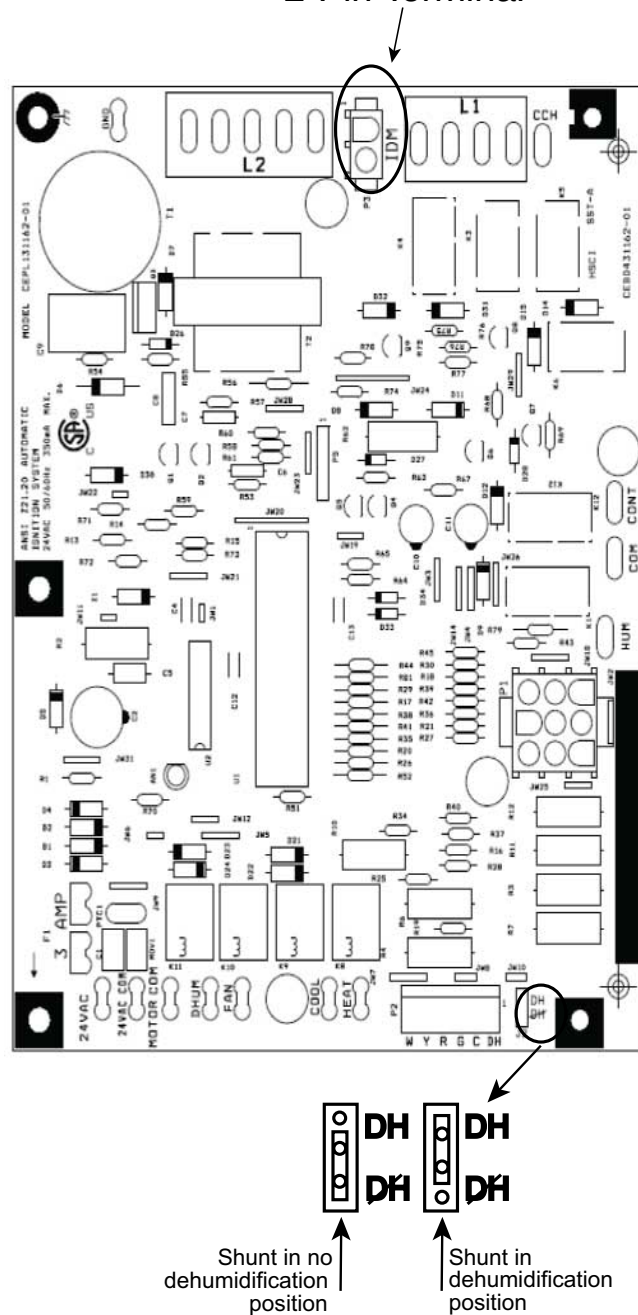

Fig. 19 – Ultra Low NOx IGC Board
This unit is factory-set for use with a single cooling fan speed. For single phase models, the cooling speed is marked “COOL” on the IGC (See Fig. 19). The factory-shipped settings are noted in Table 9. There are up to 3 additional speed tap wires available for use in either gas heating mode, cooling mode, or continuous fan mode (For color coding on the indoor fan motor leads, see Table 7). For single phase models, one of the additional speed tap wires is connected to the continuous fan, with the other 2 wires shipped loose in the control box near the IGC. For three phase models, the additional 3 speed tap wires are shipped loose with vinyl caps and are located in the control box near the interface fan board (IFB) (See Fig. 19).
1. Move shunt jumper on IGC board to “DH” (See Fig. 19).